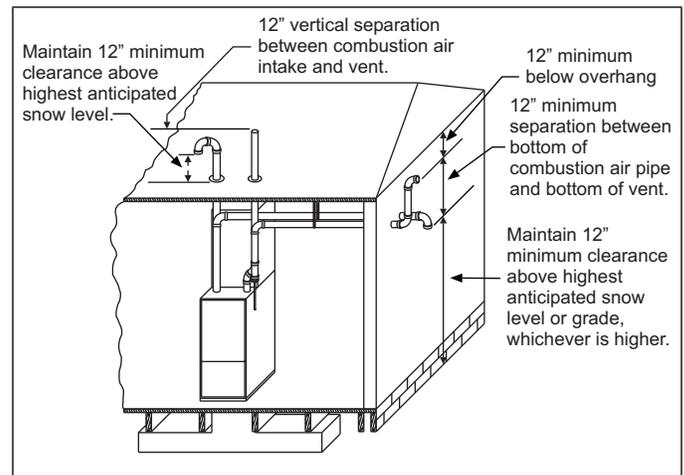

FIGURE 28: Termination Configuration - 2 Pipe
7. Direct vent systems must be installed so the vent and the combustion air pipes terminate in the same atmospheric zone. Refer to Figures 28 or 29.